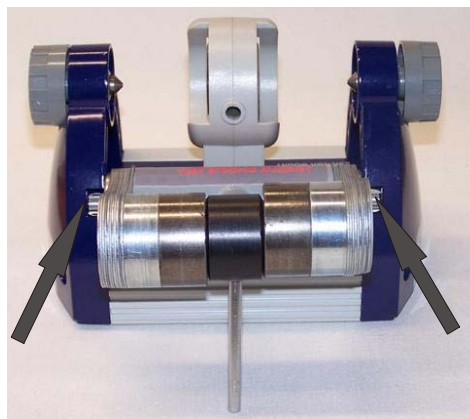

Fig. 2 Permanent magnet inserted into basic unit
- Twist the metal rod into the yoke of the magnet unit. Place the magnet unit in the clip on the basic unit as shown in Fig. 2.